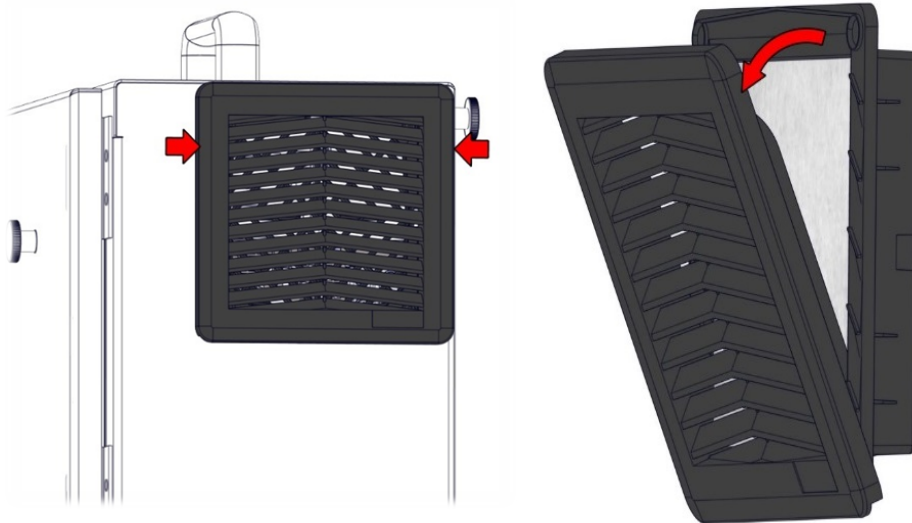

Figure 3.7. Replace the Control box filters.
1. Gently remove the outer plastic frame by pulling where the red arrows are, as shown in the images below in figure 3.7. The frame tilts outward.